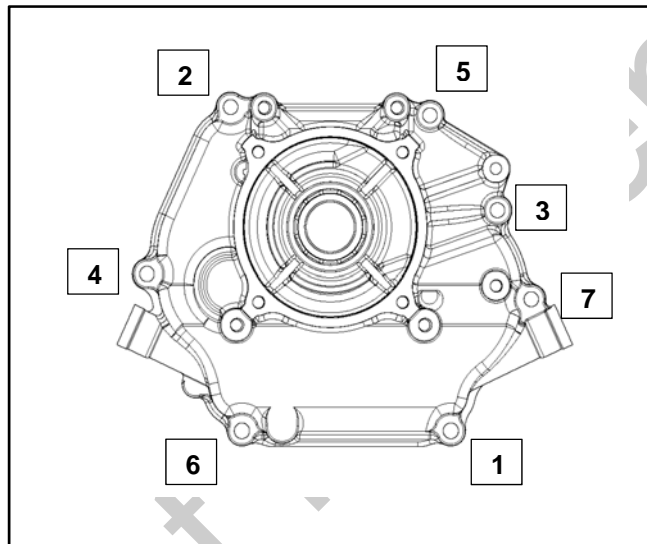

Figure 2a – Utility Cover
- 4) Start the cover bolts by hand and step-torque them in the sequence shown below (Figure 2a or 2b) to 80 lb-in (9.0 Nm), then to 160 lb-in (18.0 Nm), then finally to 220 lb-in (24.9 Nm).